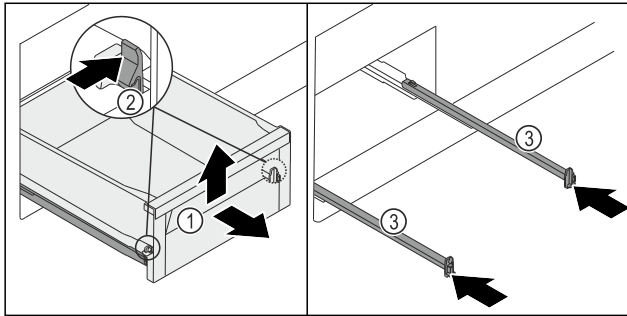

Fig. 128
- Pull out the drawer Fig. 128 (1) as far as it will go.
- Press the left and right clamp Fig. 128 (2) inward at the same time.
- The drawer Fig. 128 (1) is released from the rails.
- Lift up the drawer Fig. 128 (1) at the front.
- Remove the drawer Fig. 128 (1) from the front.
- Push in the rails Fig. 128 (3).